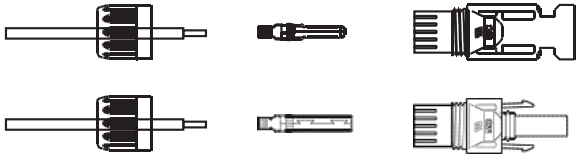

Figure 5.12 Disassemble the Connector Cap nut
- Strip off the DC wire for about 7mm, disassemble the connector cap nut. (see Figure 5.12)